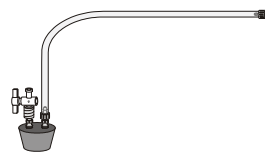

Figure 1
- The white stem on the end of the Gas Pressure Sensor Box has a small threaded end called a luer lock. With a gentle half turn, you may attach the plastic tubing to this stem using one of the luer connectors already mounted on both ends of the tubing. The Luer connector at the other end of the plastic tubing can then be connected to one of the stems on the rubber stoppers that are supplied, as shown in Figure 1.